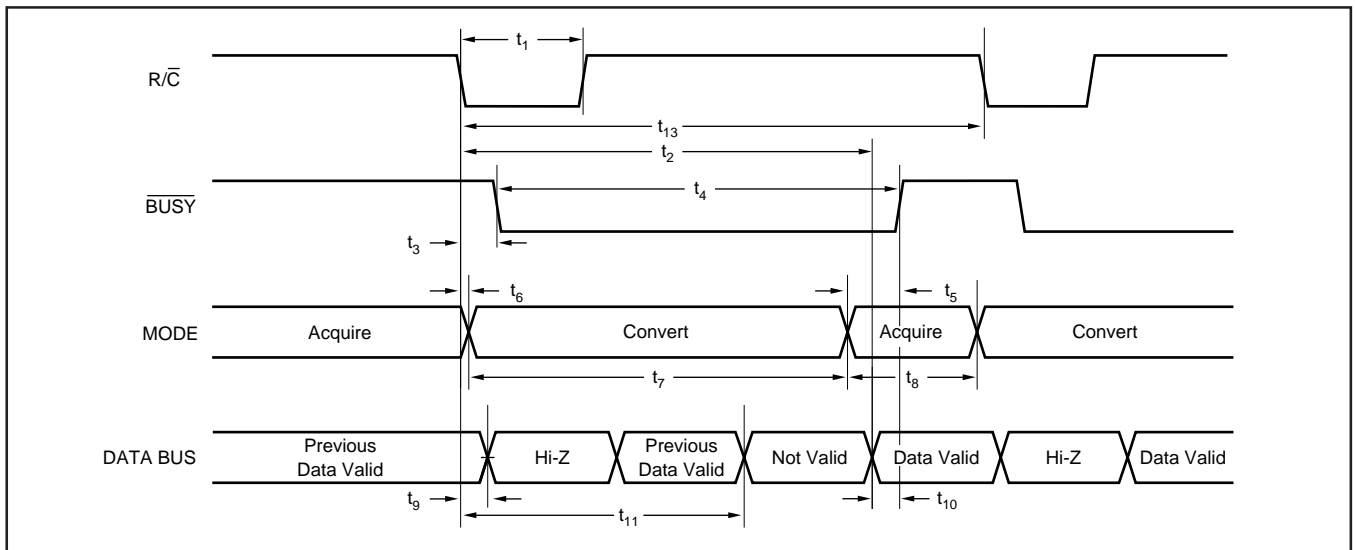

FIGURE 3. Conversion Timing with Outputs Enabled after Conversion ( $\overline{CS}$  Tied LOW).
Table II for a summary of  $\overline{\text{CS}}$ ,  $\overline{R/\overline{C}}$ , and  $\overline{\text{BUSY}}$  states and Figures 3 through 5 for timing diagrams.
NOTE: (1) See Figures 3 and 4 for constraints on data valid from conversion "n-1".
After conversion 'n' is completed and the output registers have been updated,  $\overline{BUSY}$  (pin 26) will go HIGH. Valid data from conversion 'n' will be available on D15-D0 (pins 6-13 and 15-22).  $\overline{BUSY}$  going HIGH can be used to latch the data. Refer to Table IV and Figures 3 to 5 for timing specifications.
After conversion 'n' has been initiated, valid data from conversion 'n - 1' can be read and will be valid up to  $7\mu s$  after the start of conversion 'n'. Do not attempt to read data from  $7\mu s$  after the start of conversion 'n' until  $\overline{BUSY}$  (pin 26) goes HIGH; this may result in reading invalid data. Refer to Table IV and Figures 3 to 5 for timing specifications.
The number of control lines can be reduced by tying  $\overline{CS}$  LOW while using  $R/\overline{C}$  to initiate conversions and activate the output mode of the converter (see Figure 3).